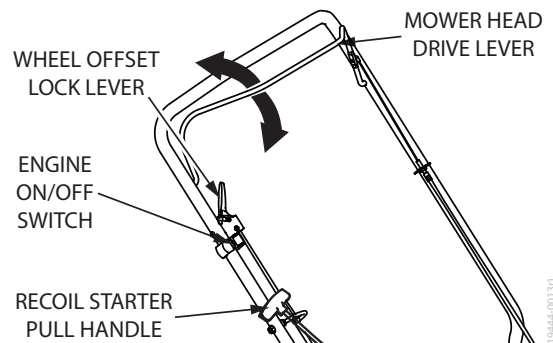

FIGURE 5: Using The Mower Head Drive Lever.
1. To engage the mower head, hold the control bail against the handle. Move the mower head drive lever forward to engage the mower head. The faster the engine runs, the faster the mower head will rotate. **SEE FIGURE 5**